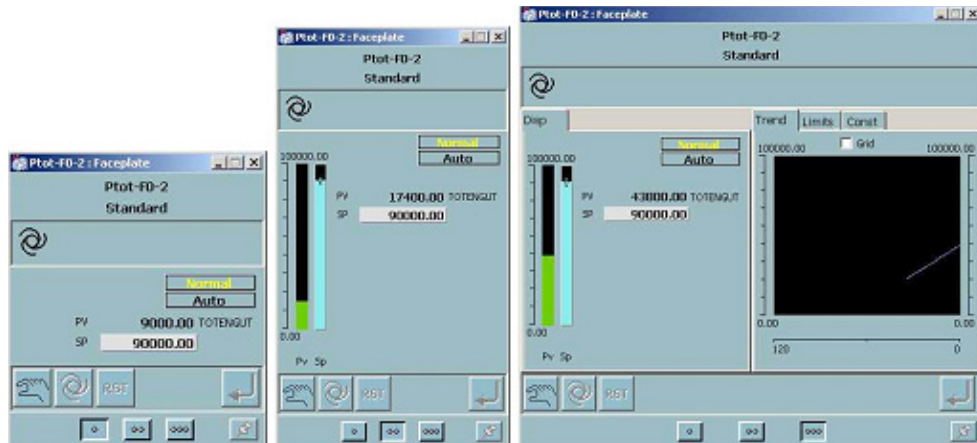

Figure 191. TOT Module
**Totalizer (TOT).** Totalizer faceplates are representations of 800xA for DCI totalizer tags. Depending on the function index, this module adds up or subtracts down an analog or pulse input value. A TOT module reports the current and setpoint value, engineering units, range, alarm status, and quality that are presented in these faceplates. Figure 191 shows the layout of the TOT reduced, normal, and extended sized faceplates and their attributes.